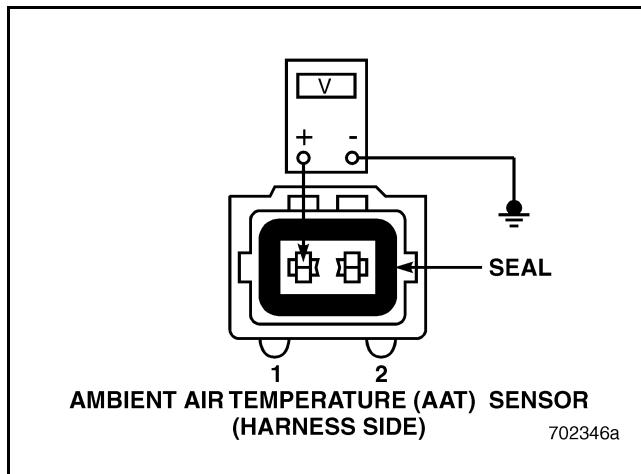

Figure 71
3. Measure the voltage between AAT Sensor harness connector pin 1 and a good ground (see Figure 71).